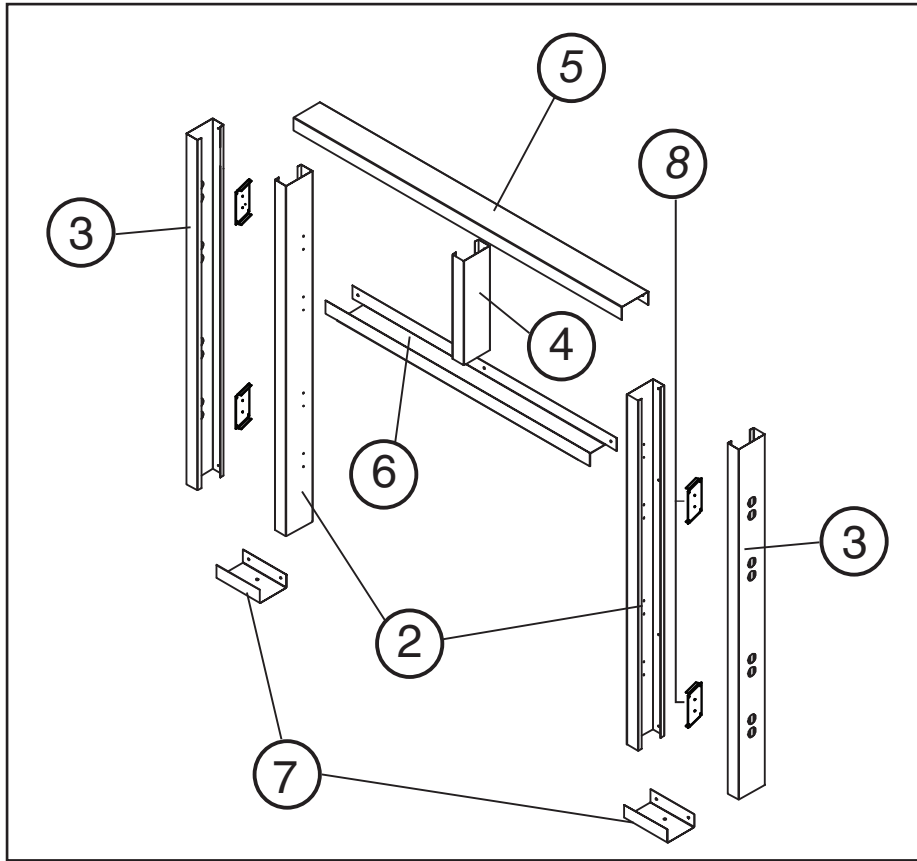
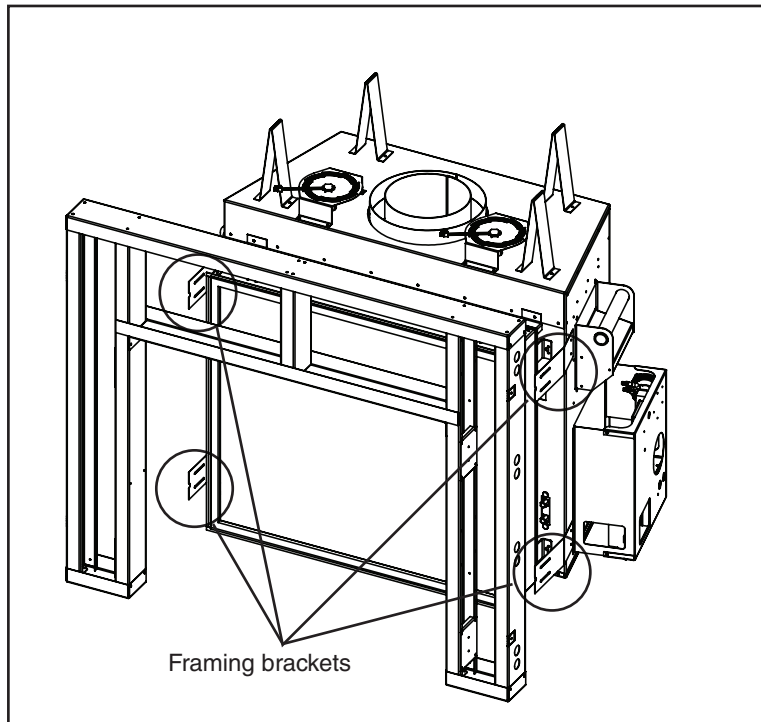
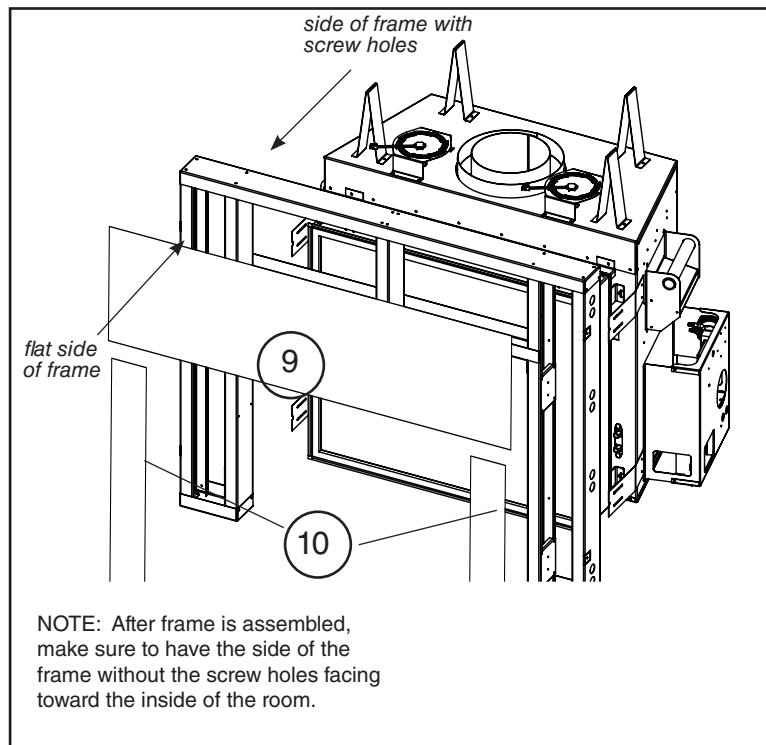

Figure 14: TC30 Framing kit parts.
Figure 15: TC30 Framing brackets.
Figure 16: Combustible boards.
**1. Top Frame Assembly** (Figure 14)
- Lay out side studs (2) and center stud (4) on a large flat surface.
- Using the screws provided (1), attach the header stud (5) and the plate stud (6) to the center stud (4).
**2. Attach Side Studs** (Figure 14)
- Fasten the Inner side studs (2) to the header (5) and plate (6) studs.
- Attach the outer side studs (3) to the top of the header stud (5)
- Fasten the outer side studs (3) at the bottom using the base plates (7).
- Align and secure the framing plates (8) to the frame so that they are in line with the framing brackets on the fireplace unit (Figure 15). Align the assembled frame to the unit framing brackets (Figure 15). Attach at the fastening points through the access holes in the outer side studs (3).
- Secure the frame assembly to existing framing through the stud header (5) and the stud plates (7).
- Use drywall screws to install the non-combustible board top (8) and sides (9) (Figure 16)